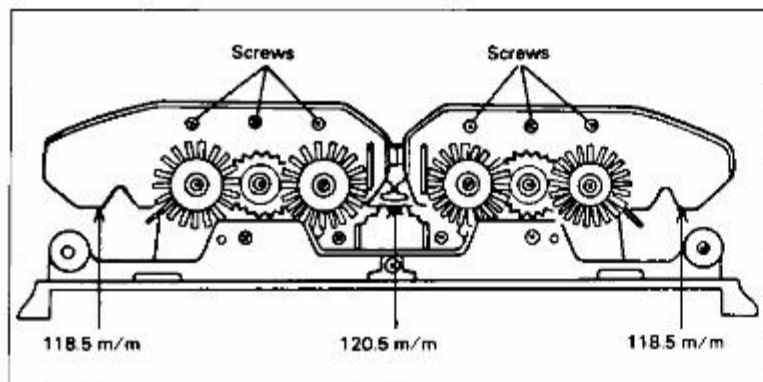

Fig. 5-2
- * Position adjustment of the sinker plate. (Fig. 5-2).